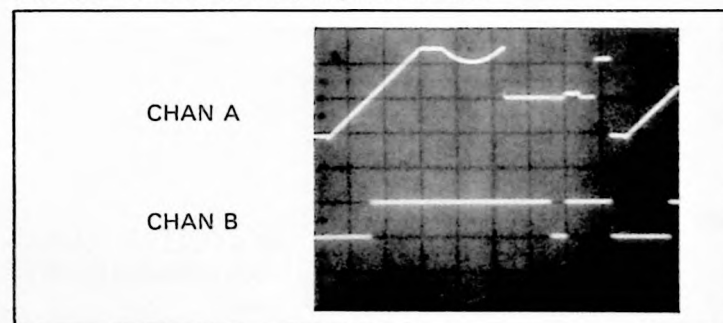

Figure 7-D-2. A/D Converter Test With Comparator
d. Adjust triggering (trigger on channel A) for the display shown in Figure 7-D-2. The top display indicates the output of the integrator. The bottom display is the output of the comparator. If the top display is correct but the bottom is not, replace U403.
e. Adjust Channel A Vert. V/DIV to .5V/DIV. Turn off Channel B. This should provide the waveform shown in Figure 7-D-3. Any discrepancy in the left portion of the display indicates a failure in the DAC. Check resistors R401 through R405. Discrepancies in the right portion of the display indicates a failure in the run-up/run-down portion of the A/D Converter. Replace U403.